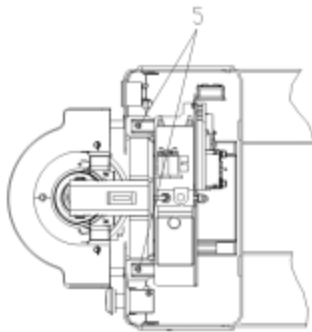

Fig. 13
- (Fig.13) Loosen screw 5 so that the lithium battery is not compressed by the integrated base;